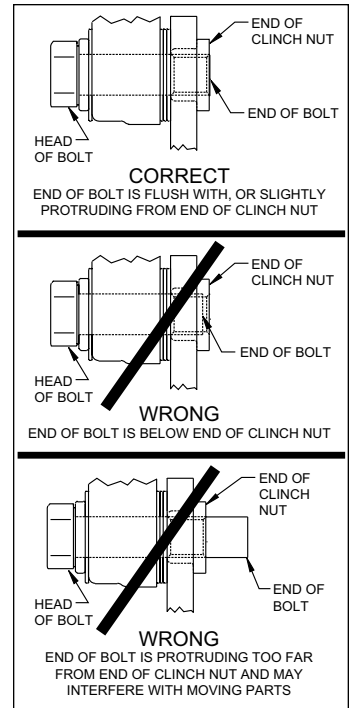

Figure 4. Clinch Nut Engagement Diagram
CAUTION: All mounting bolts must fully engage clinch nuts. Be sure to check that all bolts are either flush or protruding through flanged side of clinch nut after shimming, Figure 4.
- Adjust by adding or subtracting shims (2) between the bracket and the spindle. Always use the same amount of shims on each of the two mounting bolts.
•**NOTE:** The end of each bolt must be flush with or slightly protruding from the head of the clinch nut, as shown in Figure 4. If necessary place spare shims (2) between washer (19) and caliper mounting ear to achieve the proper clinch nut engagement. Once the caliper alignment is correct, remove the ProSpindle and steering arm bolts one at a time, apply red *Loctite*® 271 to the threads, and torque to 55 ft-lb.